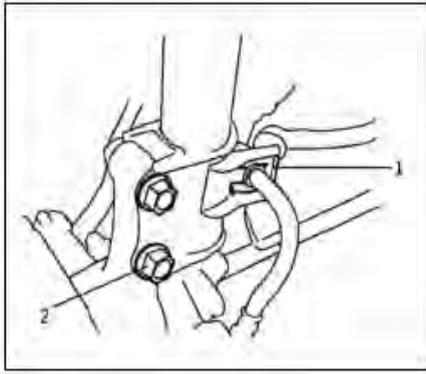
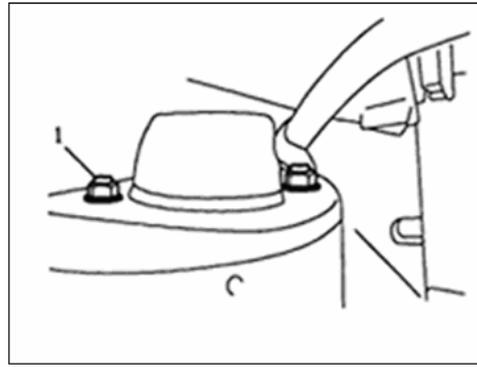

FIG.14-10
FIG.14-11
- (1) Lift the car.
- (2) Removal front wheels. (Refer to front wheel removal)
- (3) Removal “E” ring which fixes the brake hose, and removal brake hose from hose bracket (FIG.14-10)
- (4) Removal flange nut. (FIG.14-10).
- (5) Removal wheel speed sensor bolt
- (6) Removal strut top mounting nut (FIG.14-11).
- (1) It is the reverse of removal procedures. Tighten to the specified torque.
- (2) The tightening torque can refer to Table 14-2, the position can refer to FIG.14-10~FIG.14-11.